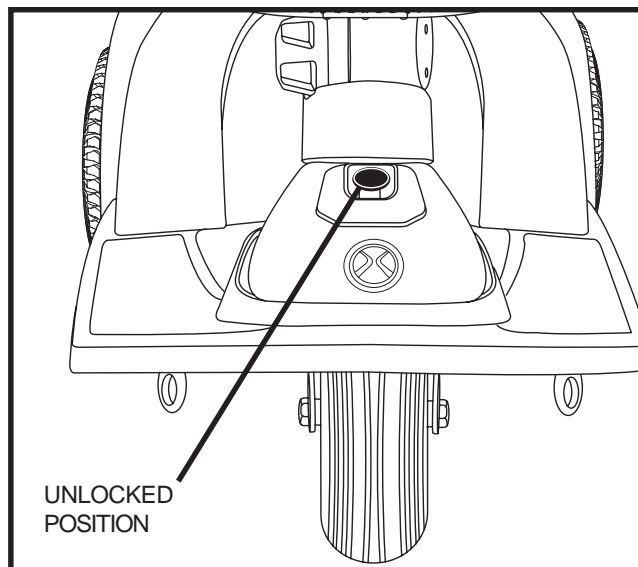

Figure 19A. Tiller Lock Knob (Unlocked)
9. Unlock the front wheel by turning the tiller lock knob 90° anticlockwise. See figure 19A.